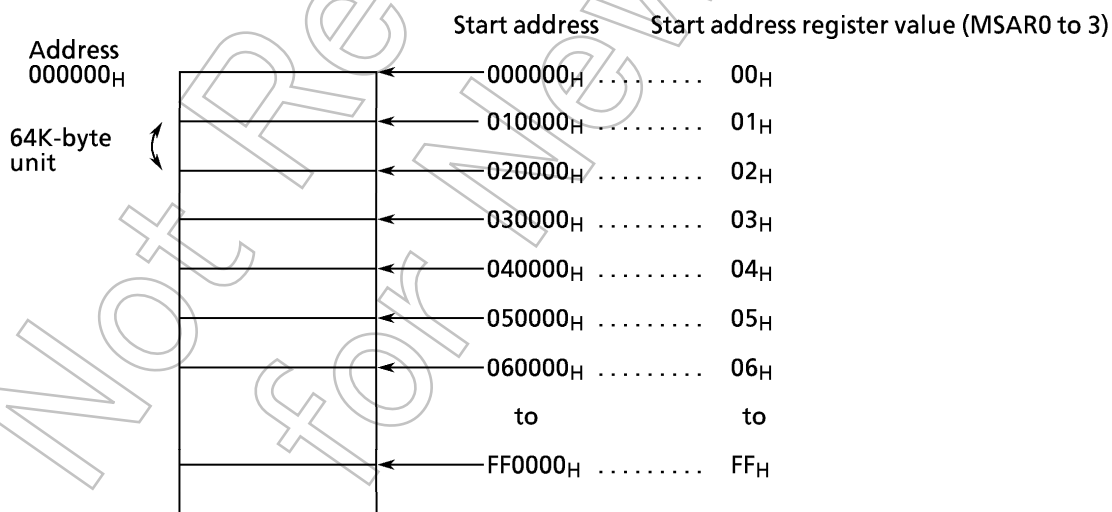

Figure 3.6 (8) Where to Set Start Address
As shown in the address decoder block diagram (Figures 3.6 (3) to (5)),  $\overline{CS0}$ ,  $\overline{CS1}$ , or  $\overline{CS2/CS3}$  can specify the address area for which the chip select signal can be output depending on whether to compare the addresses A8 to A20, A8 to A21, or A15 to A22 respectively.